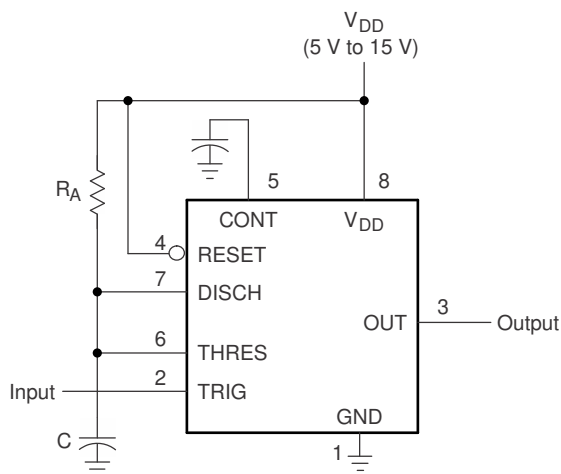
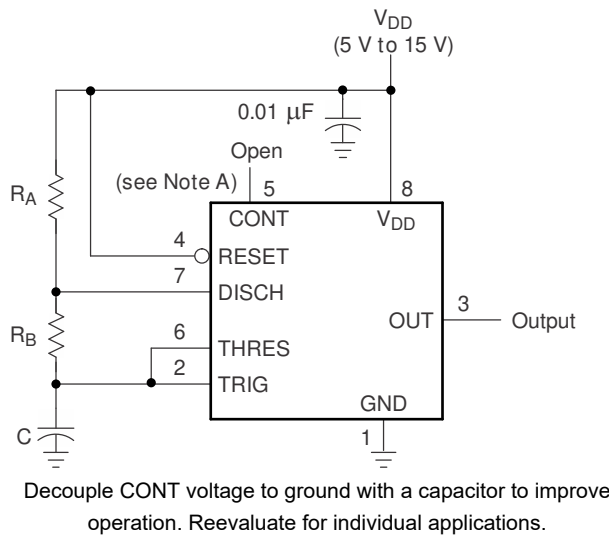
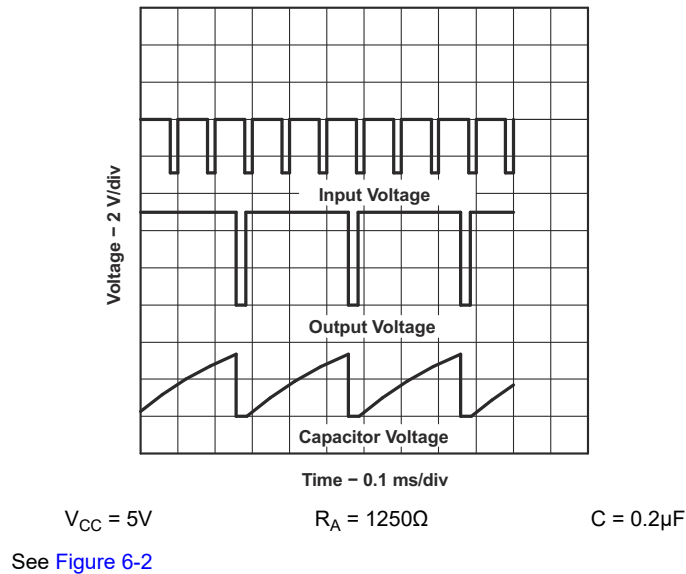

Figure 6-2. Circuit for Monostable Operation
Figure 6-5. Circuit for Astable Operation
Figure 6-9. Divide-by-Three Circuit Waveforms
(1) R_A , R_B , and C_T are as defined in Figure 6-5.
For monostable operation, Figure 6-2 shows how any of these timers can be connected. If the output is low, application of a negative-going pulse to the trigger (TRIG) sets the internal latch; the output goes high, and discharge pin (DISCH) becomes open drain. Capacitor C then is charged through R_A until the voltage across the capacitor reaches the threshold voltage of the threshold (THRES) input. If TRIG has returned to a high level, the output of the threshold comparator resets the internal latch, the output goes low, the discharge pin goes low, which quickly discharges capacitor C.
As shown in Figure 6-5, adding a second resistor, R_B , to the circuit of Figure 6-2 and connecting the trigger input to the threshold input causes the timer to self-trigger and run as a multivibrator. The capacitor C charges through R_A and R_B and then discharges through R_B only. Therefore, the duty cycle is controlled by the values of R_A and R_B .
By adjusting the length of the timing cycle, the basic circuit of Figure 6-2 can be made to operate as a frequency divider. Figure 6-9 shows a divide-by-three circuit that makes use of the fact that retriggering cannot occur during the timing cycle.